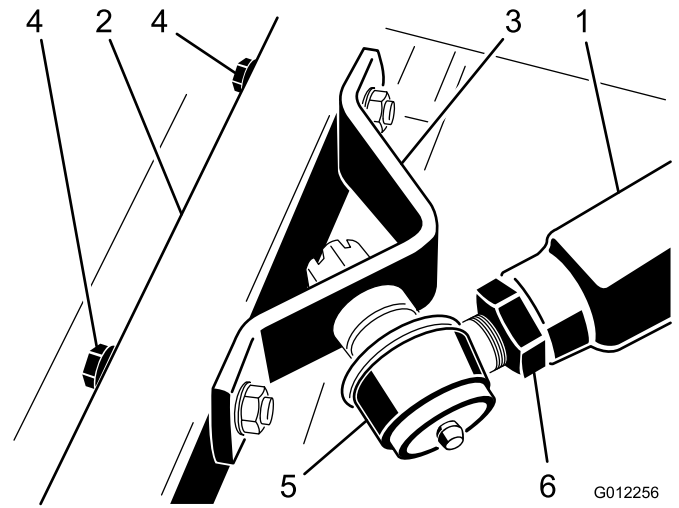

Figure 22
- 5. Have another person push down on the right push arm while you remove the capscrews, flat washers, and locknuts securing the ball joint mount to the castor arm on the cutting unit (Figure 22). Now the helper can carefully allow the push arm to move upward, which will gradually release the 45 kg (100 lb) of spring load.
3. Have another person carefully push down on the right push arm until the holes in the ball joint mount line up with the holes in the castor arm (Figure 22).